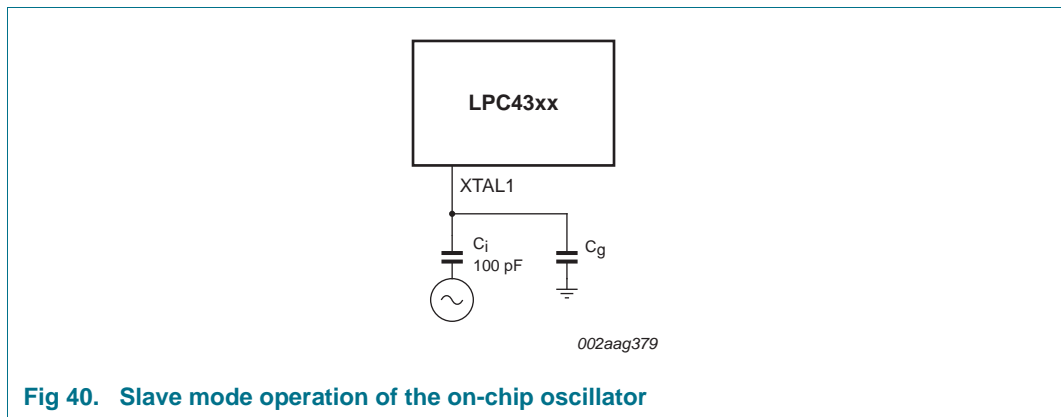

Fig 40. Slave mode operation of the on-chip oscillator
- In slave mode the input clock signal should be coupled by means of a capacitor of 100 pF (C_C in Figure 40), with an amplitude of at least 200 mV (rms). The XTAL2 pin in this configuration can be left unconnected.